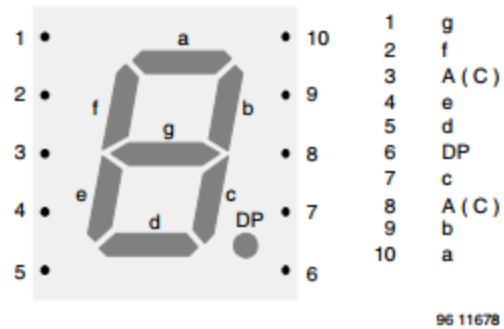
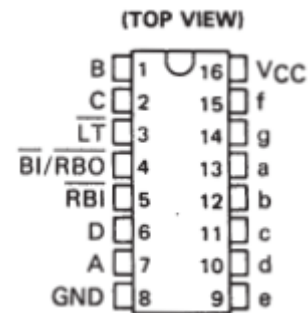
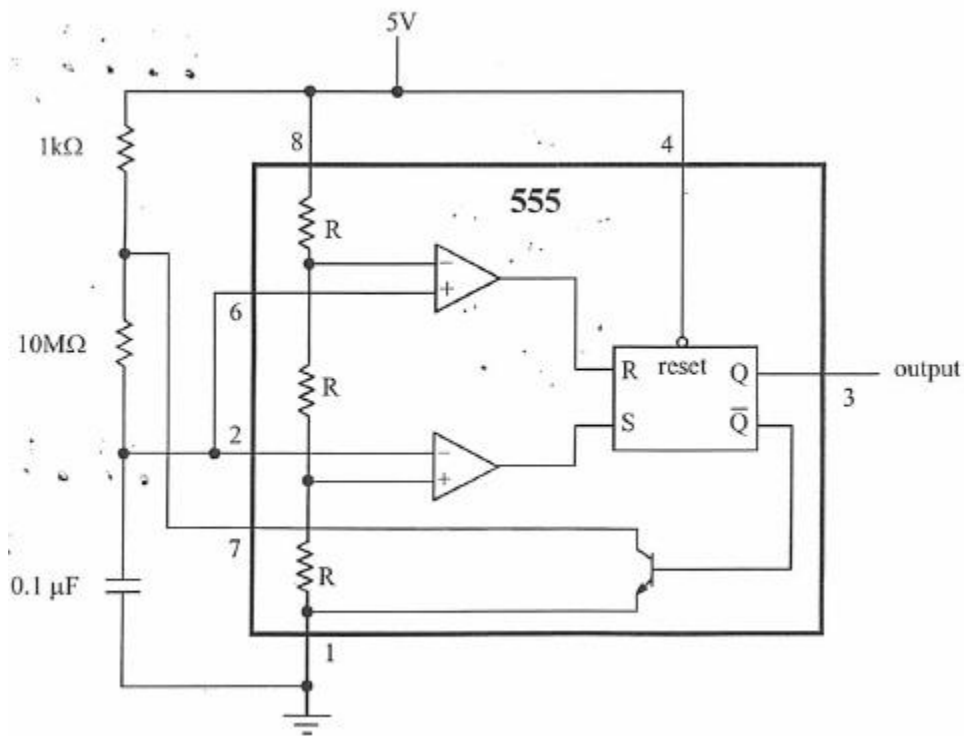

Figure 2 Seven-segment LED display (LCD). The pinout is specific to the device in the lab and varies from one manufacturer to the next.
Figure 3 Pinout of 7447 BCD to 7 segment decoder. See Texas Instruments datasheet online for internal logic.
Figure 8 555 Timer circuit
It is convenient to display the output count on a 7 segment LED in digit form. We will use another device to decode the four bits from the counter into a form compatible with the LED array. This device, the 7447 BCD-to-seven-segment decoder, converts the BCD binary number at its inputs into a 7 segment code to properly drive the LED digit (see Figure 2). The function table describing the input (BCD) to output (7-segment LED code) relationship for the 7447 is shown in Table 2. Refer to Figure 3 for the pin-out diagram for the device.
3. In the steps that follow, you will construct a one decade digital display as shown in Figure 8. **Note - don't build the circuit now (see steps 4-13 below).** Each group will be given a 7-segment LED display, a 7447, a 7490, and a 555. Carefully color code your wires, trim them to correct lengths, and insert them flat against the board. A "rat's nest" will not be acceptable. Please see the physical example in the lab (or see the photo at the start of the procedure section). Figure 2 includes useful reference information from the datasheet.
8. Insert the 7447 on one side of the display. Refer to Figure 2 for pin- out information.
12. Finish wiring the 7447 and 7490 as shown in Figure 8. Refer to the 7490 Reset/Count Truth Table and the description of the reset inputs above. In the schematic, all of the reset pins are grounded, putting the 7490 in count mode.
13. To be able to reset the counter (e.g., with a pushbutton input), set R0(2)=H, R9(1)=L, and R9(2)=L, and wire up a normally-open (NO) button to R0(1) so the signal is low when the button is not pressed. When R0(1)=L, the counter will be in count mode, and when R0(1)=H (when the button is pressed), the counter will reset to 0.